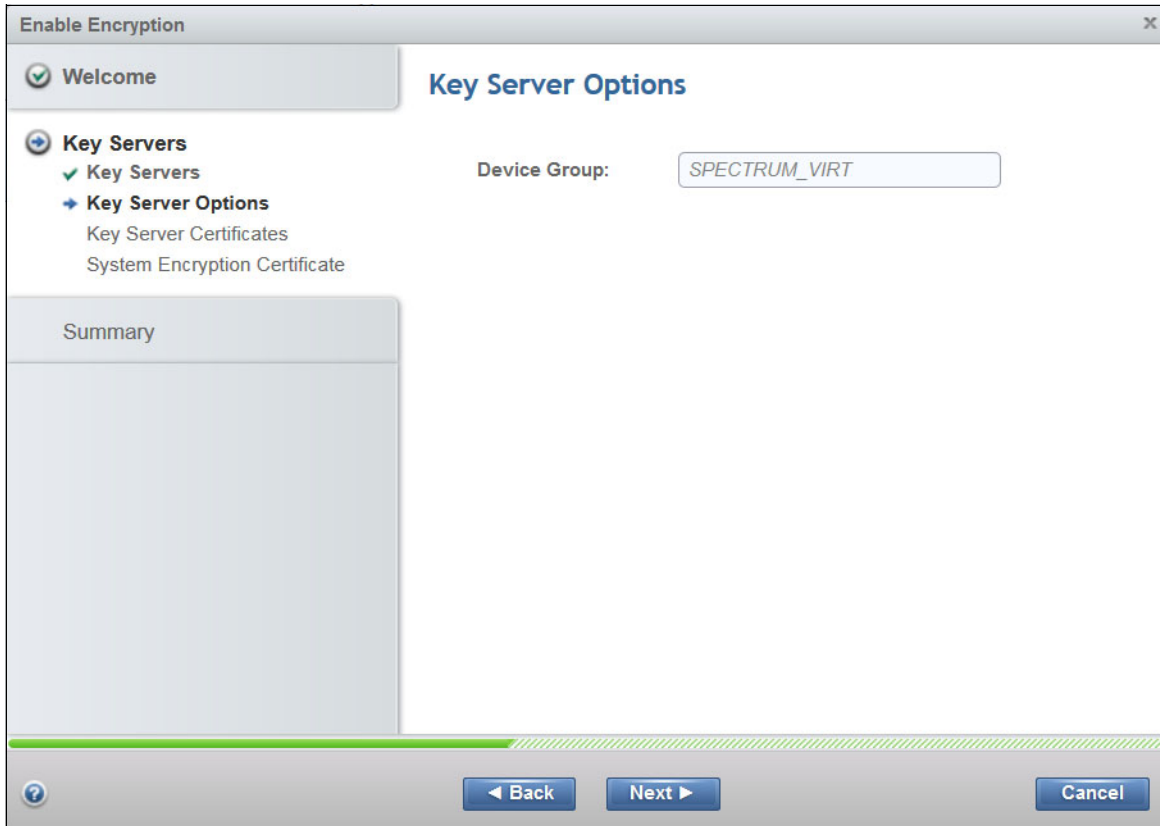

Figure 9-66 Device Group name, default for IBM SKLM server
2. Enter the Device Group name (Figure 9-66 on page 446).